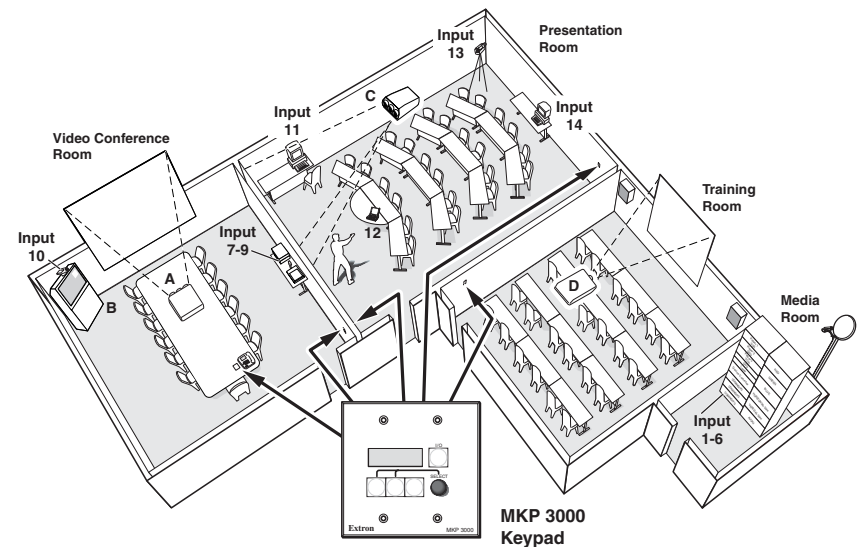

Figure 1-1 — Typical MKP 3000 applications
In the example in figure 1-1, the "presentation room" (top, center) has one output device, a projector (C), and four input devices: a video camera (13), a laptop computer (12), and two PCs (11 and 14). The "Media Room" (bottom, right) contains the matrix switcher, as well as other inputs (1-6) and possibly some control device(s).